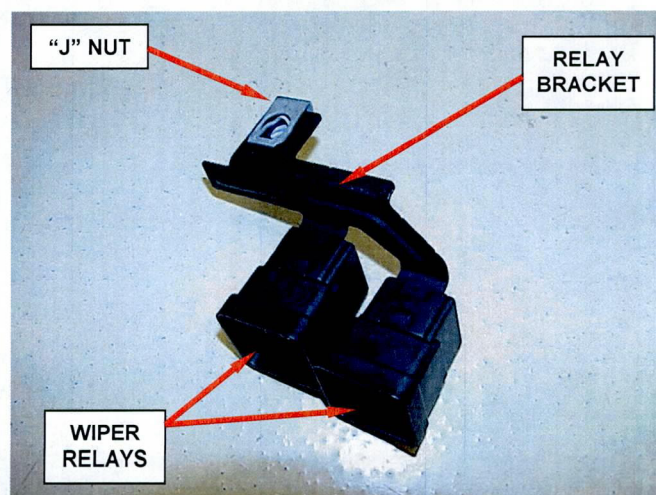

Figure 19 – “J” Nut
12. Install the “J” nut onto the relay bracket (Figure 19).